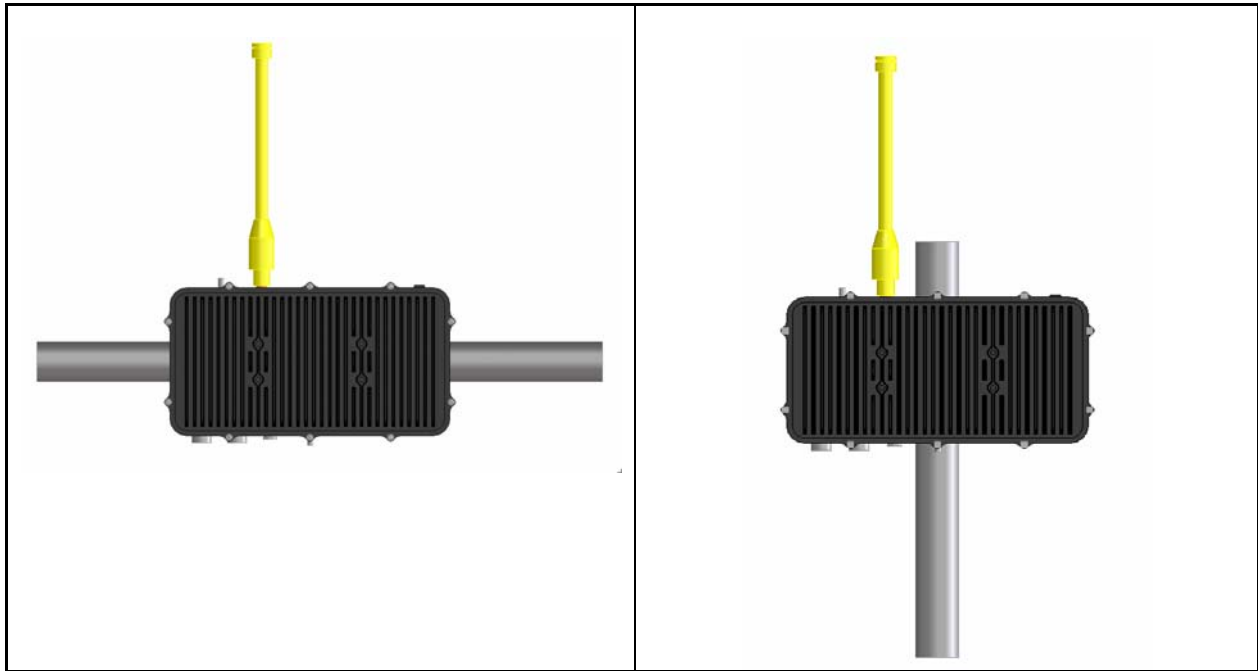

Figure 6-1: Pole Mounting the VIDA^{MAX} Base Station
The VIDA^{MAX} Base Station is designed to accommodate pole mounting. Typically, pole mounting means mounting the base station on a light post (horizontally) or telephone pole (vertically) as shown in Figure 6-1. A kit containing two mounting brackets and hardware for attaching the base station to a pole can be optionally purchased. The bracket accommodates mounting on a pole with a diameter in the range of one (1) to six (6) inches. The installer must provide straps necessary to secure the base station brackets to the pole.